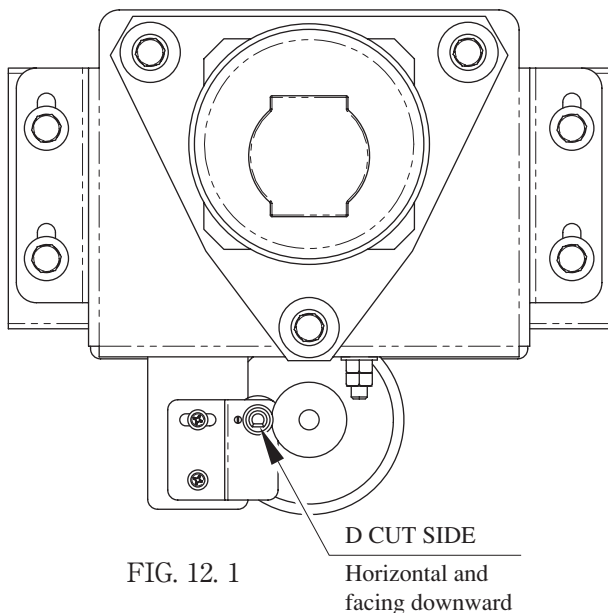

FIG. 12.1
- ④ Engage the gear so that the D-cut side of the VR axle is level and facing downward when the steering unit is in the straight position (see Figure 12-1).
- ⑤ Tighten the 2 screws holding the bracket in place.
- ⑥ Adjust the variable resistor settings on the Volume Settings screen (see 10-3G).
- ⑦ Check to make sure the "STEERING X" value on the Input Test screen is within the range $80H \pm 8H$ when the steering unit is in the straight position.